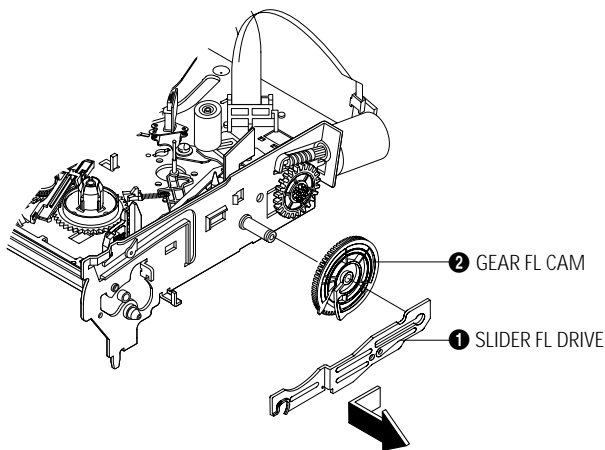

Fig. 4-10 Slider FL Drive Removal
- 1) Pull the Slider FL Drive ❶ to the front direction.
- 2) Remove the Slider FL Drive ❶ in the direction of arrow. (Refer to Fig. 4-10)
- 3) Remove the Gear FL cam ❷.